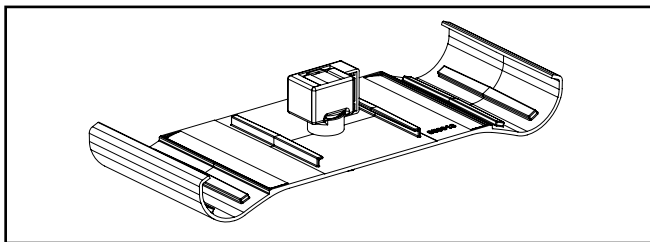

Figure 16
4. The trim piece includes the test switch preassembled. (Figure 16)